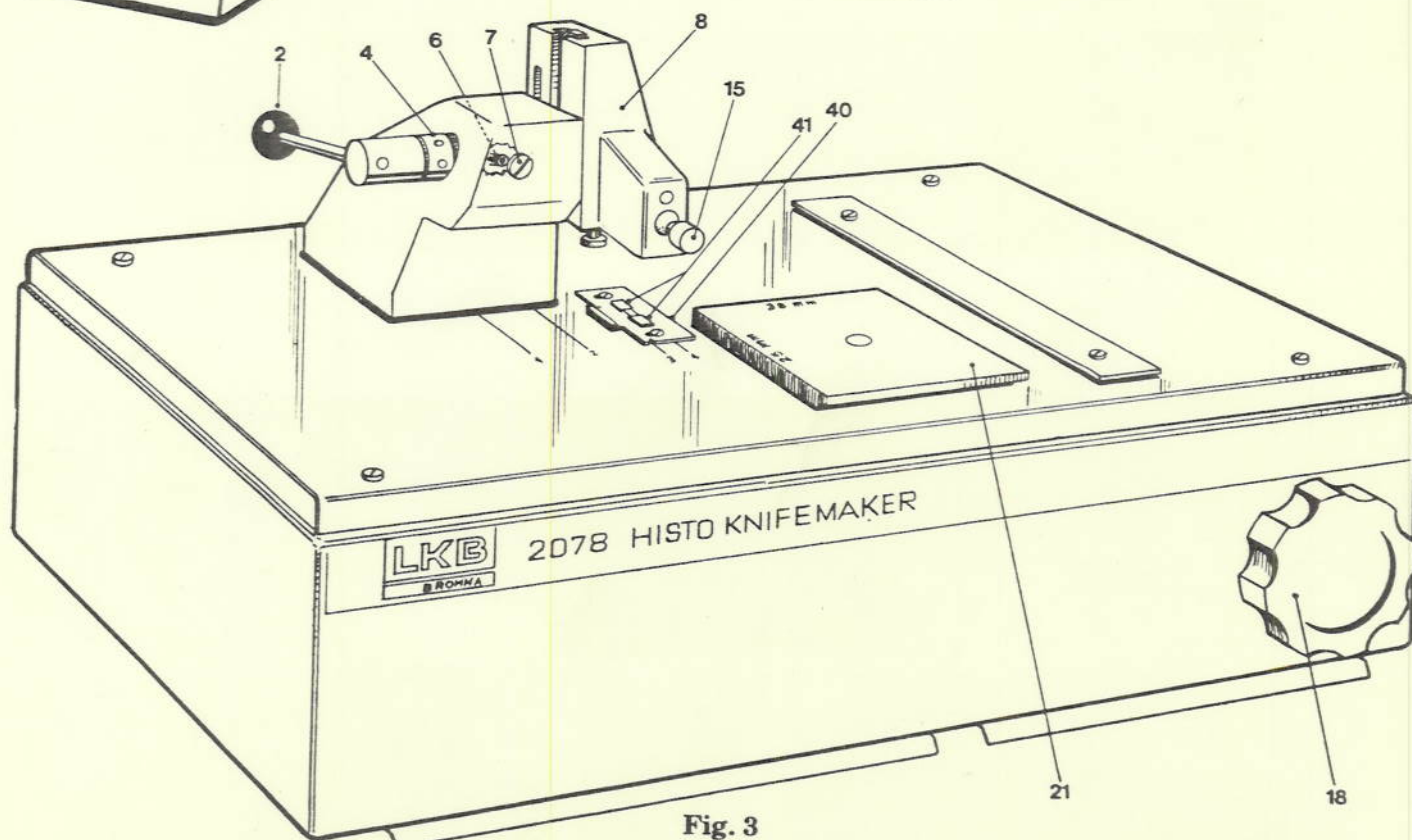
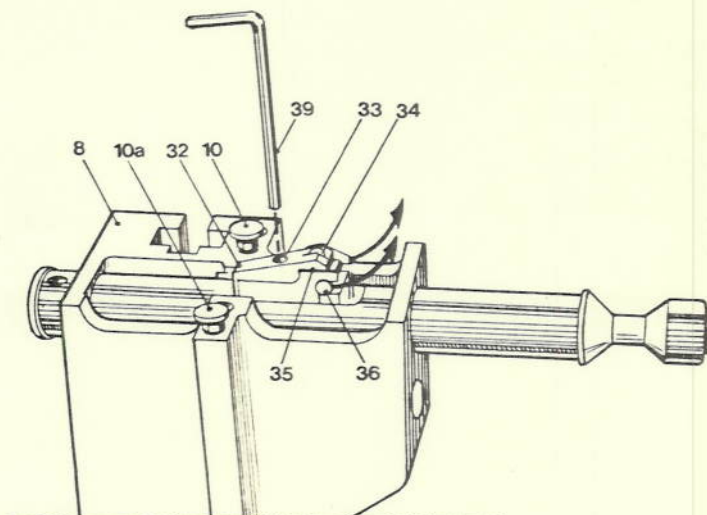
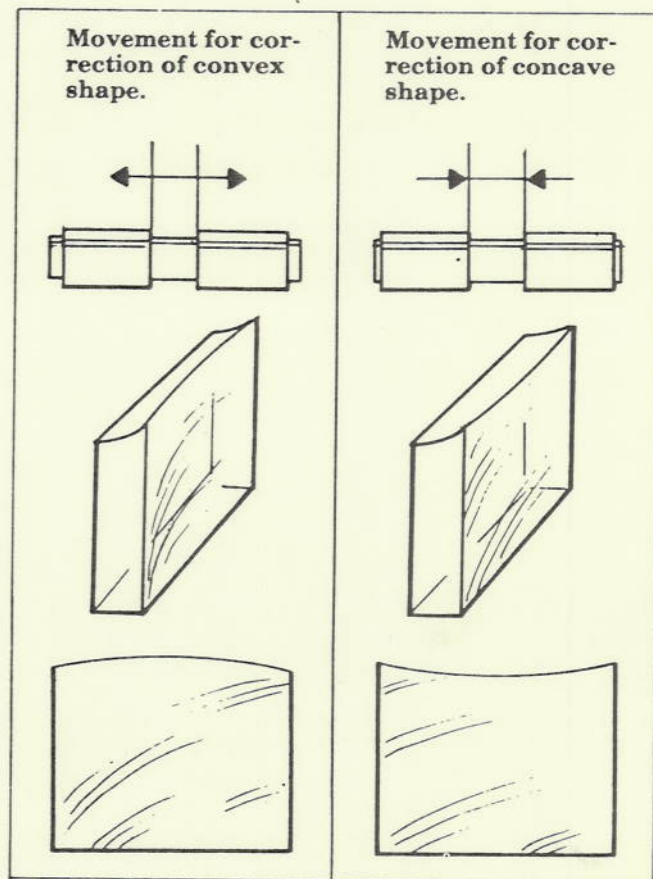

Fig. 3
Fig. 2
Fig. 4
The Clamping Head has two pressure studs 10 and 10 a (see Figure 2). Check that the studs are placed in the outer positioned threaded holes (maximum distance apart). If this is not the case, as in Figure 2, see IV C for correction. Swing the lever 2 (see Figure 3) to its rearmost position. This brings the Clamping Head to its upper position and the Histo KnifeMaker is ready for operation.
2. Figure 3 shows the Guide Plate (21) for the glass strips. Check that the figures (25 mm or 38 mm) on the guiding side (i.e. rear edge) of the plate correspond to the width of the glass strips to be cut. If not, lift the Guide Plate until it can be turned and set back into the correct position for guiding the glass strip.
3. Check that the Breaking Knob (18) (see Figure 3), is in its counter-clockwise position and that the Scoring Shaft (15) is pushed to its rearmost position.
4. Move the Fulcrum Plate (40) until the index mark is in line with a) pos. 3 or b) pos. 4 on the stainless steel deck, depending on whether the knives are to be made with medium or with small knife angles. 8 mm glass strips are preferably broken with the index mark at position 3 to provide a stronger breaking force.
5. Guide the glass strip (rough score upwards) along the Guide Plate until the left-hand end is in line with pos. 1 on the deck.
Breaking forces may also be changed by moving the left-hand upper stud 10 to its inner position. See Figure 2. This has also a decreasing effect on the knife angle and suits soft and thin glass strips. Note: the position of stud 10 *must not* be altered.
- D. See Figure 3. If the shapes of the knife edges become uneven after a while, replace the breaking plates (41) by pulling up the used ones and gently pressing down a pair of new ones. By moving the plates away from each other, a convex edge can be straightened. If the edge is too concave, the plates are moved closer to each other. See Figure 4. Check that the covering rubber seal is properly seated.
- A. Adjustment of Scoring Pressure (see Figure 2).
1. Remove the Clamping Head (8). (See step 1 in A).
2. Pull the scoring shaft (15) out about 40 mm.
3. Hold the Clamping Head as shown in Figure 2. Press down the holder (32) of the cutter wheel with your thumb and remove the locking pin (36). (If it is difficult to press down the holder (32), loosen screw 33 by turning it counter-clockwise.)
4. Place the Clamping Head (8) on a table and push out the shaft of the cutter wheel, for example, with a paper clip, and remove the wheel (34).
6. Replace the pin (36).
7. Replace the Clamping Head (8): see step 3 in A.
- C. Adjustment of Locking Lever Position (see Figure 3)**
- Loosen set screw (6) behind cover screw (7). Hold lever (2) horizontally with the black knob directed towards you. Turn sleeve (4) backwards to its stop. Tighten the set screw securely. Replace screw (7).